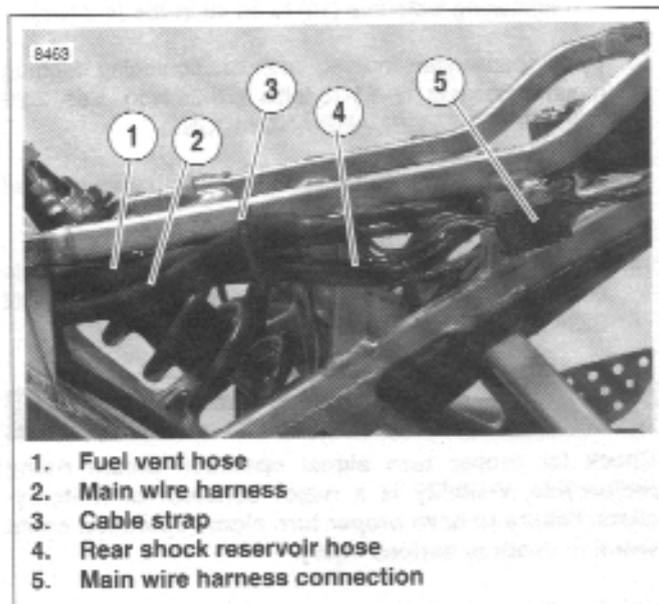
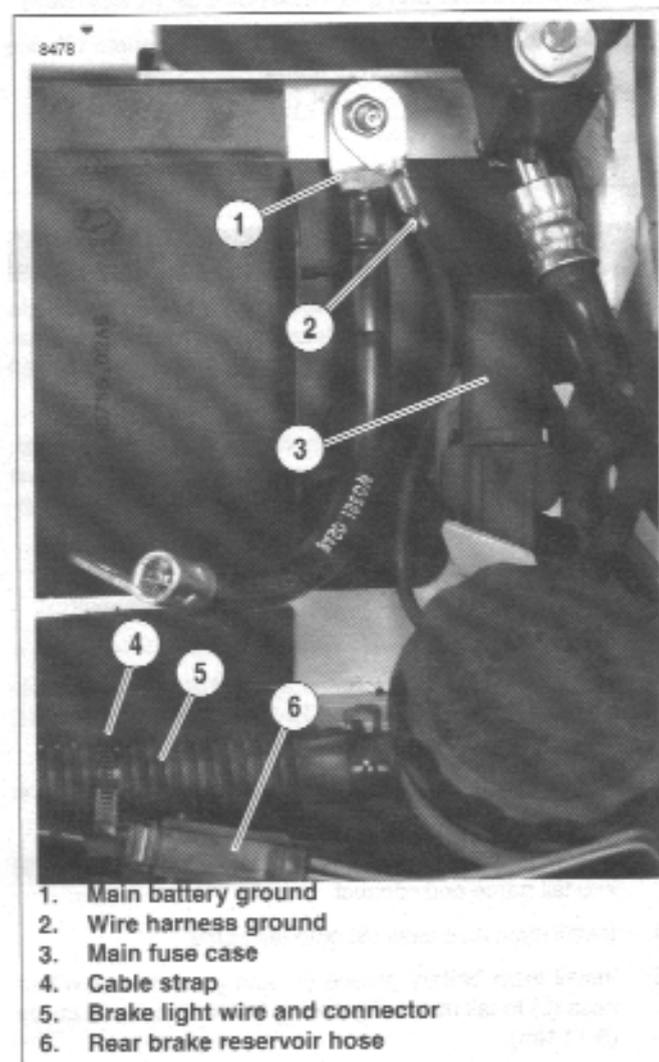
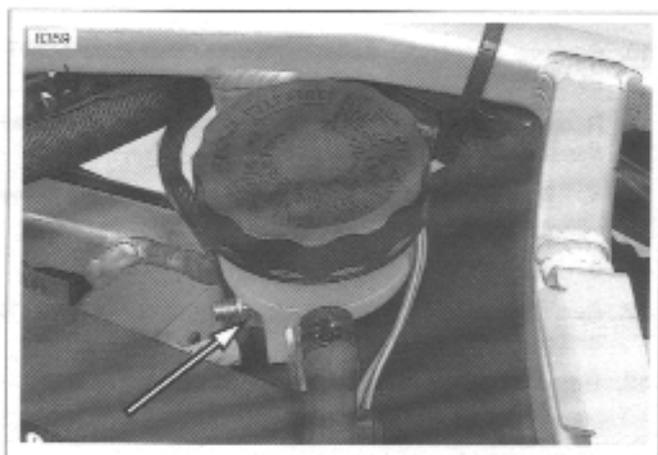
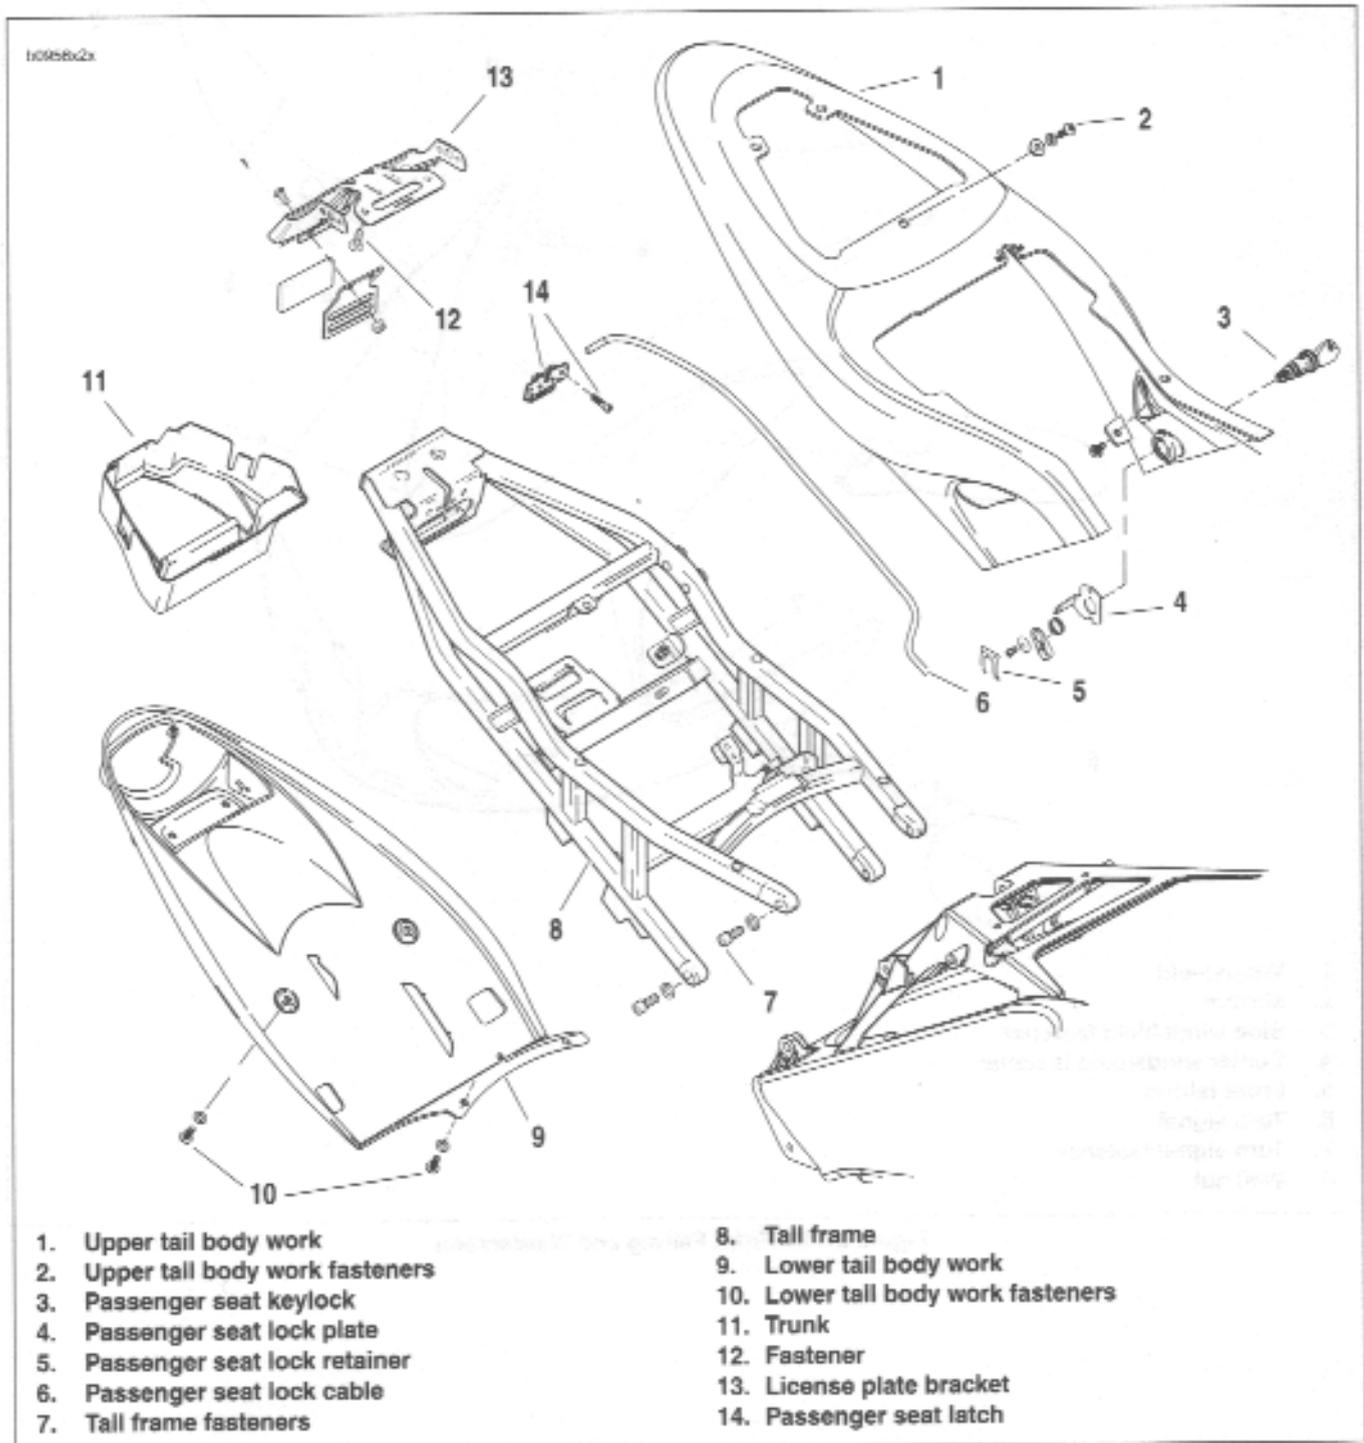

Figure 2-109. Left Side Tail Frame Hose and Wire Routing
Figure 2-110. Inside Tail Frame Hose and Wire Routing
Figure 2-111. Remote Reservoir Clamp Nut
Figure 2-112. Tail Frame and Body Work Assembly
3. See Figure 2-112. Remove upper body work (1) from tail frame (8).
- a. Remove body work fasteners (2).
- b. Disconnect passenger lock cable (6) by removing cable from seat lock plate (4) and ferrule from key-lock (3).
- c. Lift upper tail body work (1) off tail frame (8).
4. Remove passenger seat latch (14) from rear of tail frame.
5. See Figure 2-109. Disconnect rear power harness connection (5).
9. See Figure 2-112. Remove license plate fasteners (12) from lower tail body work (9) and remove license plate (13).
11. Remove lower body work (9) and trunk (11) from tail frame (8).
- a. Remove lower body work (9) underneath tail frame by removing fasteners (10).
- b. Remove trunk (11).
12. See Figure 2-110. Disconnect main battery ground (1) and ground to wire harness (2).
13. Remove main fuse case (3) from tail frame.
14. See Figure 2-110. Cut cable strap (4) holding rear brake light wire (5) and rear brake reservoir hose (6).
15. Disconnect rear brake light connection (5).
16. See Figure 2-109. Cut cable strap (3) from tail frame holding vent hose (1), main wire harness (2) and shock reservoir hose (4).
17. See Figure 2-111. Remove rear brake reservoir clamp nut.
20. See Figure 2-112. Remove tail frame fasteners (7) and remove tail frame (8) from frame.
1. Install tail frame (8) to frame and tighten tail frame fasteners (7) to 21-23 ft-lbs (28-31 Nm) using LOCTITE 272.
3. See Figure 2-110. Feed rear brake light connector (5) into tail frame and connect.
4. Install main fuse case (3) onto tail frame.
5. Install main battery ground (1) and ground to wire harness (2) to tail frame. Tightening fastener to 72-96 in-lbs (8-11 Nm).
6. See Figure 2-109. Feed the rear shock reservoir (4) through second tail frame support.
9. See Figure 2-109. Feed fuel vent hose (1) through tail section, keeping the hose on top of rear shock reservoir hose. See D.1 HOSE AND WIRE ROUTING for hose and wire routing.
10. Install cable strap (3) holding shock reservoir hose, wire harness and fuel vent hose to tail frame.
11. See Figure 2-111. Feed rear brake reservoir hose underneath tail frame and install rear brake reservoir tightening fastener to 48-72 in-lbs (5.4-8.1 Nm).
12. See Figure 2-110. Install cable strap holding brake light switch and rear reservoir hose.
13. See Figure 2-112. Install lower body work (9) and trunk (11) onto tail frame (8).
- a. Install trunk (11).
- b. Install lower body work (9) underneath tail frame by tightening fasteners (10) to 36-48 in-lbs (4-5 Nm).
15. See Figure 2-109. Connect rear power harness to tail light harness (5).